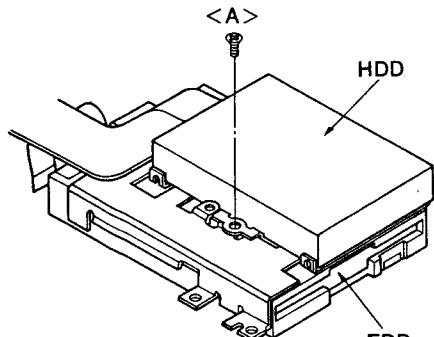

Figure 17
- (1) After removing the top case, remove one screw <A> ($2.8\phi \times 5\text{mm}$) as shown in Figure 17.